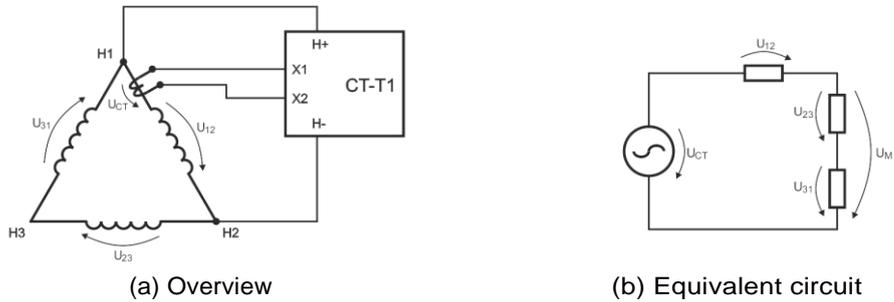

Figure 3.2: CT under test built into Δ power transformer (TR factor $2/3$)
If the CT under test is built into a Δ winding power transformer and the according winding cannot be short circuited, a compensation factor needs to be applied. Figures 3.2 and 3.3 show the measurement setup and the equivalent circuit of the high current side.
- A turns ratio correction factor of $2/3$ needs to be applied if the $H1-H2$ cables of the CT-T1 are connected to the CT under test and the associated coil (Figure 3.2).